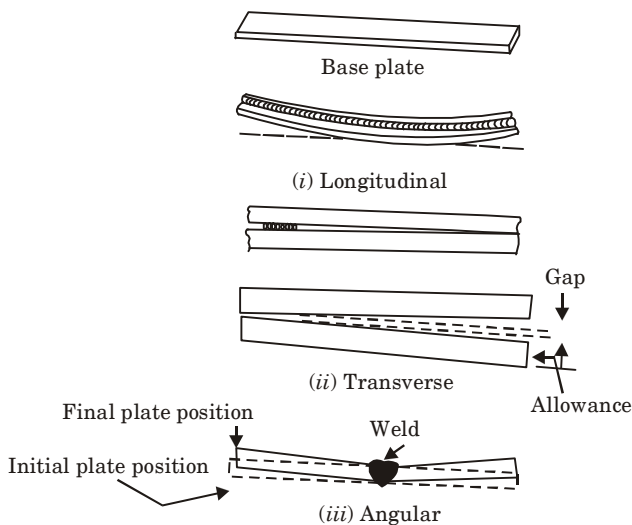

Fig. 5.
2. Longitudinal contraction is maximum along the weld centre line and decreases towards the edges as shown in Fig. 5(i).
2. Transverse contraction exists all along the weld length and it depends upon the permanent contraction of elements in the weld zone as shown in Fig. 5(ii).
1. When two beveled plates are welded, it is found that the plates are pulled out of line with each other as shown in Fig. 5(iii).